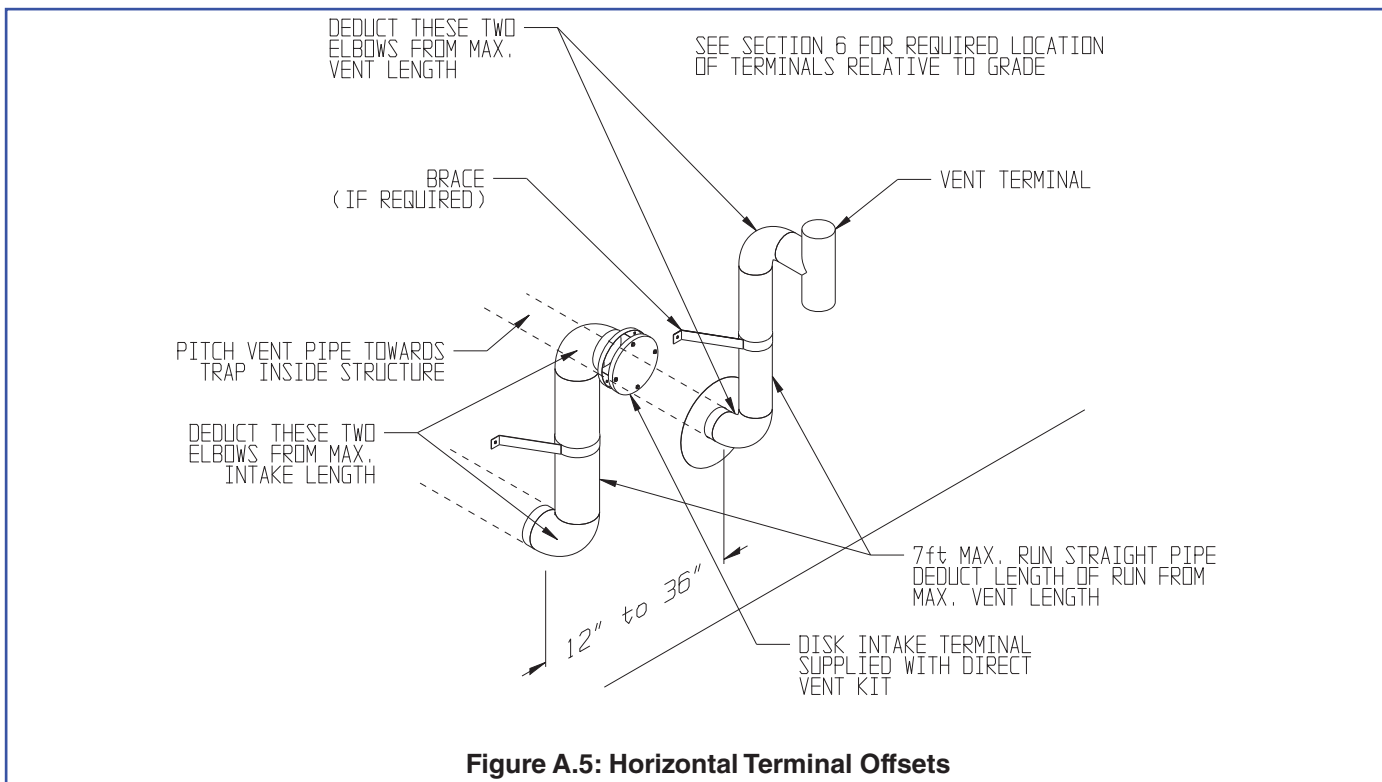

Figure A.5: Horizontal Terminal Offsets
6. Terminal Offsets – When horizontal terminals are offset as shown in Figure A.5, both must be offset vertically by the same distance.